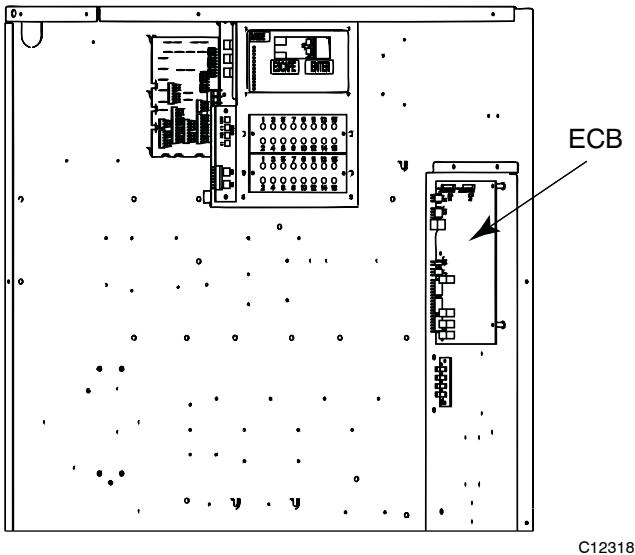

Fig. 5 - ECB Mounting Location
4. Install the economizer board into the control box using the supplied 5 screws. See Fig. 5. It is important that the screw be in place and tight to ground the board. Damage to the board could result if it is not properly grounded.